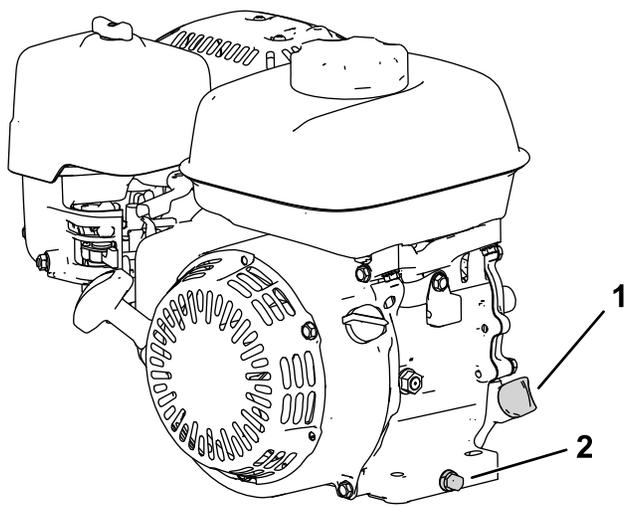

Figure 29
2. Position the machine so that the engine is level, and clean the area around the oil-fill tube (Figure 29).
3. Remove the drain plug, washer, and dipstick (Figure 29).